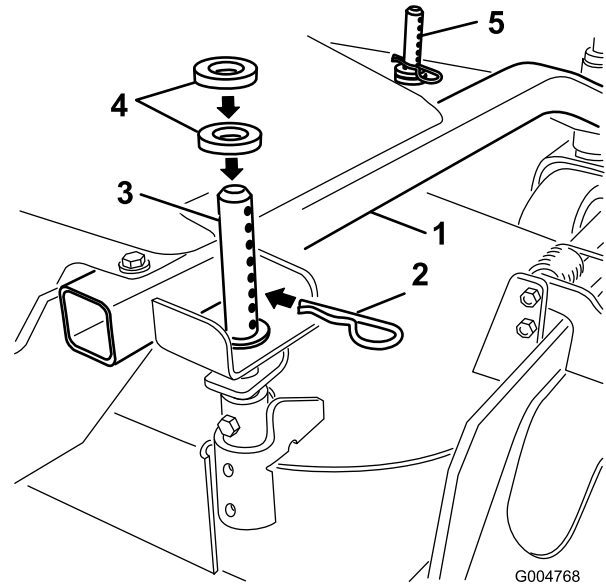

Figure 14
1. Select a hole in the height-of-cut post and the number of spacers corresponding to the height-of-cut desired (Figure 14).
2. Using the lift handle, raise the side of the deck and remove the hairpin cotter (Figure 14).
3. Add or remove spacers if needed and then align the holes and insert the hairpin cotter (Figure 14).